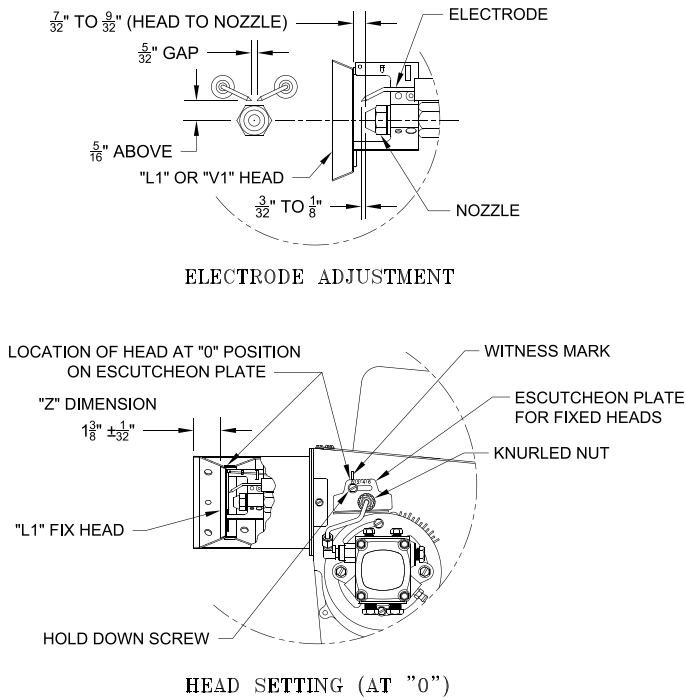

Figure 9: "L1" and "V1" Head Electrode Positioning and Gun Setting (Beckett AFG)
- i. Inspect and measure burner electrodes. Refer to Figure 9 or the proper electrode setting. Readjust electrode setting to the proper dimensions if necessary. Refer to Figure 9.
- l. Inspect Beckett head setting on left side of burner by insuring the line on the label MB(L1) or the blue line MD(V1) are aligned, readjust if necessary. Refer to Figure 9.
- n. Swing igniter closed, rotate tabs and tighten two (2) igniter screws.